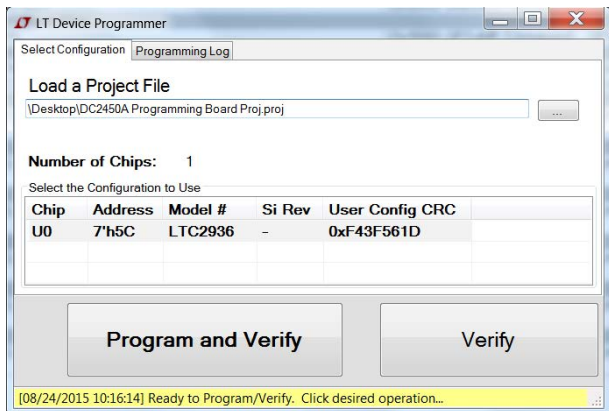

Figure 10. Device Programming Utility.
- Click the “Program and Verify” button (see Figure 10) and wait for the process to complete. After the process is complete, you will see “Successfully Programmed and Verified Device”, in the status bar at the bottom. See Figure 11.